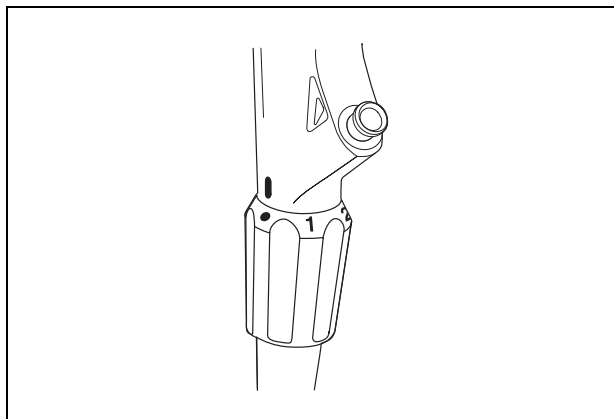

Figure 3.5
1. Confirm that the marks (“●”, “1”, “2”, “3”) on the flexibility adjustment ring and the “|” mark at the bottom of the grip section are clearly visible (see Figure 3.5).